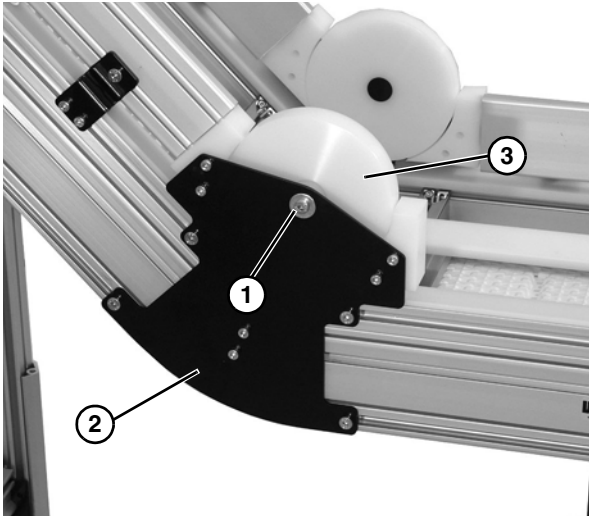

Figure 55
1. Remove cap screw (**Figure 55, item 1**), washer, and spacer on side of lower knuckle assembly (**Figure 55, item 2**), and remove hold down guide (**Figure 55, item 3**). Repeat on opposite side.